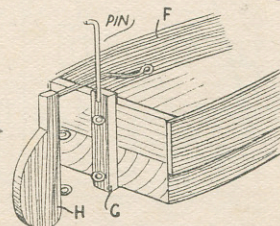

Fig. 4—The stern post and rudder
For the rudder (H) a piece of ¼in. wood about 2½ins. long is shaped as shown in Fig. 4, and fitted with two small brass eyes. Two similar eyes in the stern post fit under those in the rudder, which is held in place by a pin of bent brass.